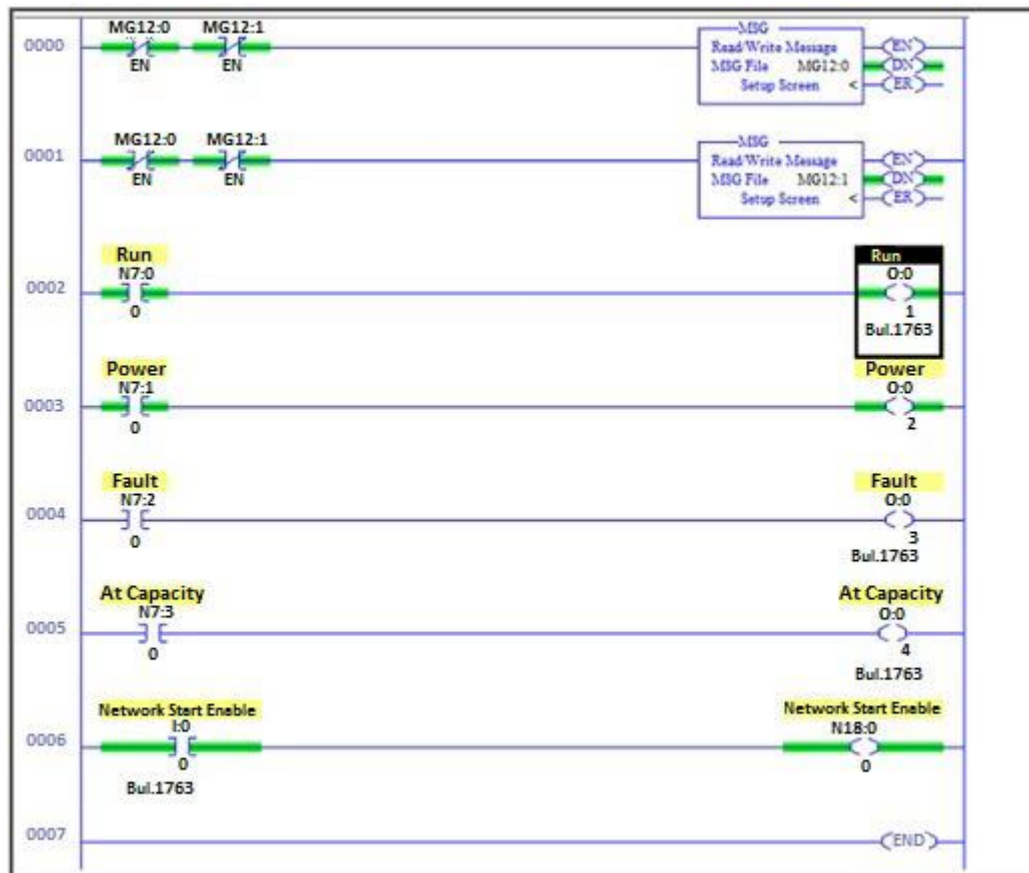

Figure 9.5: Ladder Logic Diagram
- As per the example, a ladder logic diagram has been presented (see **Figure 9.5**).